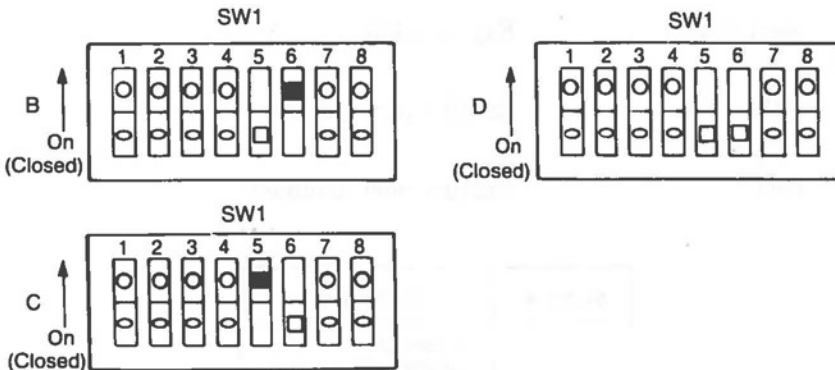

Figure 3-29 Display Switch Settings
You may elect to use an external monochrome display, or a color display. The switches of SW1 on the MPB must be set according to the configuration you choose (see Figure 3-29).
3. Set the appropriate switches (refer to Figure 3-29).